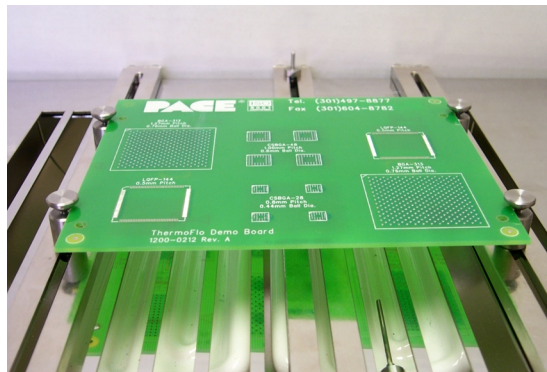

Figure 4.
- i. The PCB can be slid into position. See Figure 4.